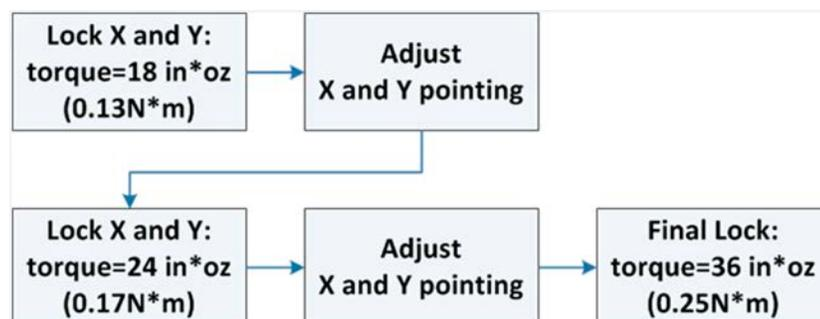

Figure 8-13. Alignment Process Diagram
3. Fine-tune the Z position (working distance) of the objective lens so that the vertical focus is at the target. Iteratively fine-tune the beam path with the internal X and Y pointing adjustments in the CellX unit, as needed. Refer to the alignment diagram in Figure 8-13. If the target is a flow cell, optimize this alignment by peaking the scattering signal.
To ease the alignment process, use a gradual and iterative lock-and-adjust method. Always start with locking at a medium torque value, as shown in Figure 8-13: